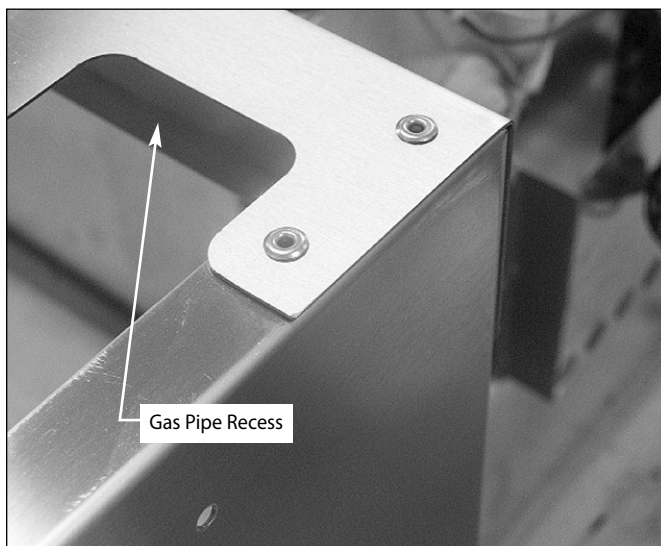

Fig. 15
7. When connecting the LP tank to the gas line be certain that the gas pipe is routed through the recess provided on the top of the right side (Fig. 15). Do not route the gas pipe through the opening in the back of the Access Drawers. Once gas connections are made, test for gas leaks.